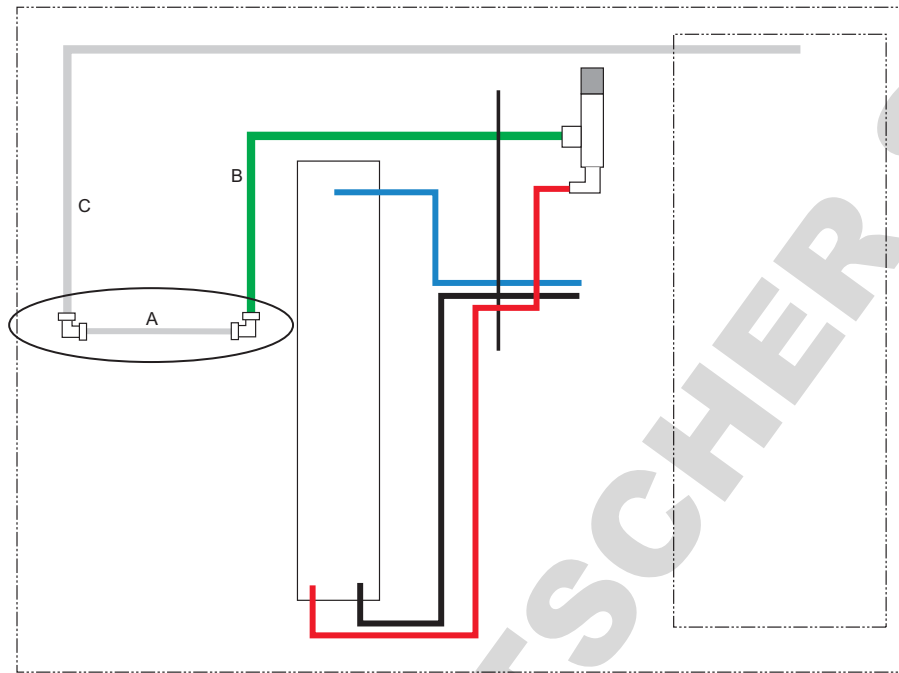

Figure 14. Bypass tubing connected.
13. Connect one end of the bypass tubing (A) to the open end of the **green** RO water outlet tube (B) and the open end of the **white** reservoir inlet tube (C) as shown in Figure 14. Use the provided elbow fittings.